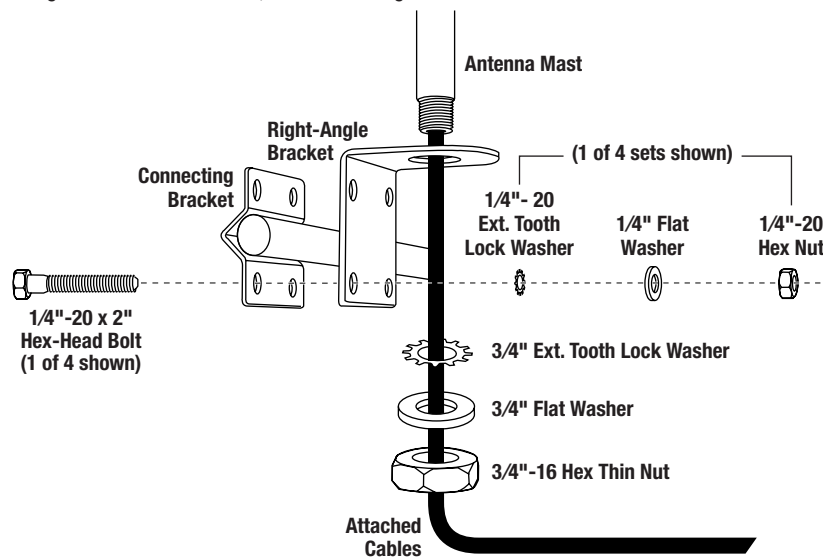

Figure 3. Assembling the brackets and antenna mast.
1. At the chosen site, attach the right-angle bracket and connecting bracket to the mirror's bar using the enclosed hardware, as shown in Figure 3.
2. Thread the coaxial cables through the right-angle bracket's opening and tighten the antenna mast to the mounting assembly (see Figure 3 above).